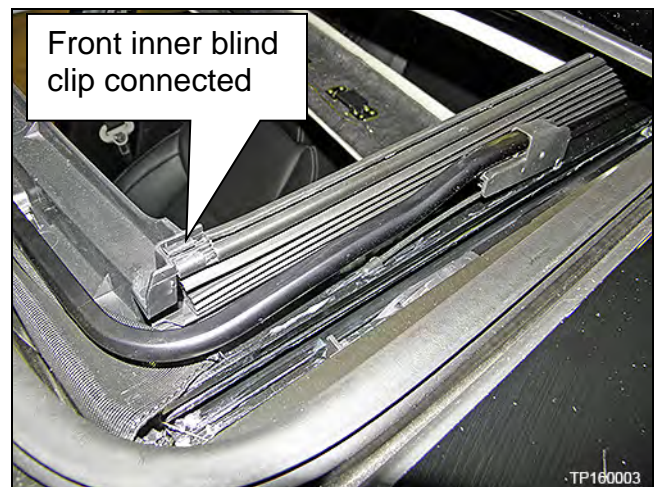

Figure 63
- b. Reconnect the front clip of the inner blind to the front corner of the moonroof frame (Figure 63).